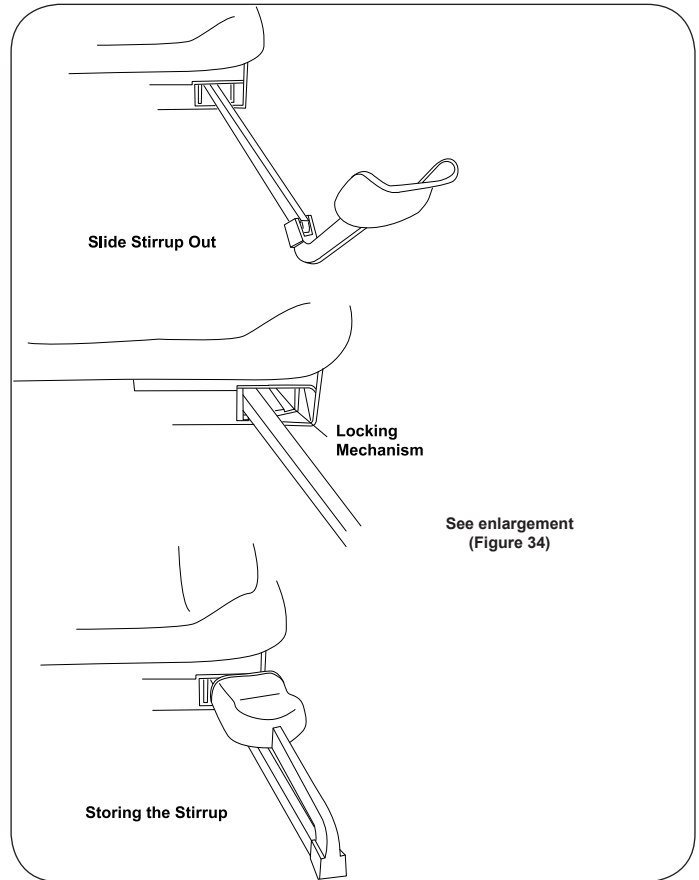

Figure 31. Stirrups
Adjustable Stirrups (Optional) Operating the Stirrups (Figure 31)
2. When the desired position is achieved, lower the stirrup to engage the lateral locking mechanism (Figures 31 and 32).